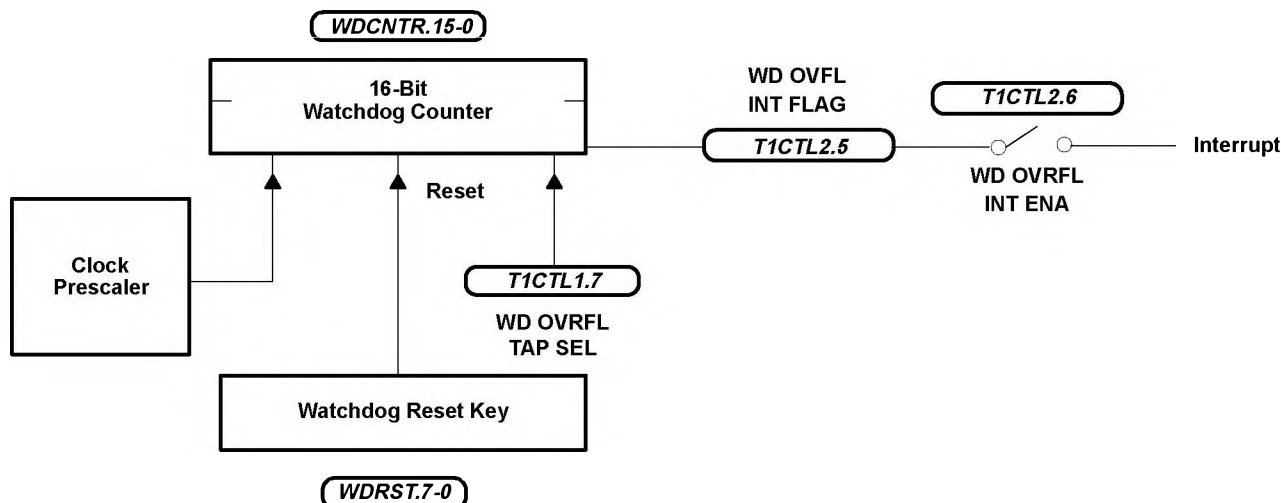

Figure 11. Simple Counter
- Simple-counter configuration (see Figure 11) – for mask-ROM devices only